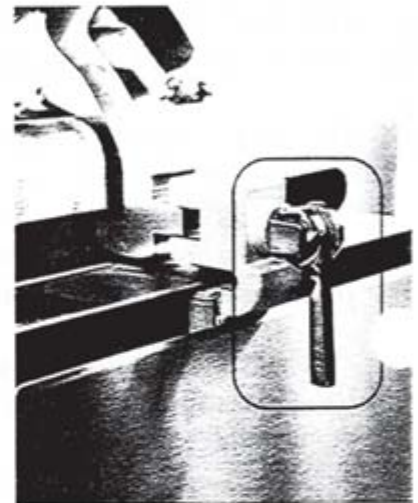

Figure 12-1
9. Remove slicer from automatic mode, by pulling down automatic release handle to lower position. (Fig. 12-1) (The food chute should be free to move manually forward and backward.) Turn the slice thickness dial all the way clockwise to close the slicer table. Pull the food chute handle all the way toward operator. Now you can load or unload the food product.